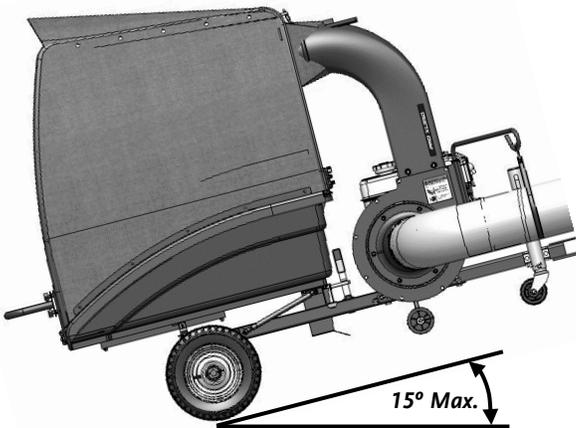

Figure 80
- Do not use the DR Leaf and Lawn Vacuum on slopes greater than 15 degrees (**Figure 80**). Doing so could result in serious injury to yourself or damage to your machine.